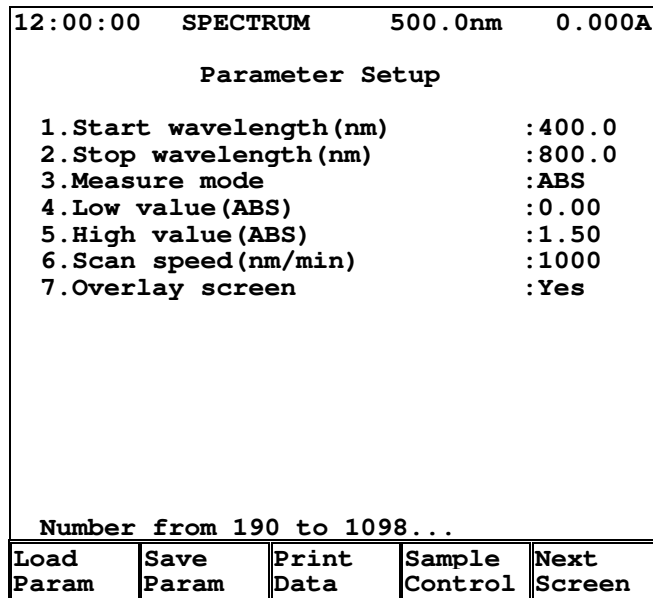

Figure 6.2 Setting of parameters
Step 2. In Parameter Setup, key in desired values or select proper choice in those 7 items step by step, followed by an ENTER (Figure 6.2). If any setting needs correction, use up/down